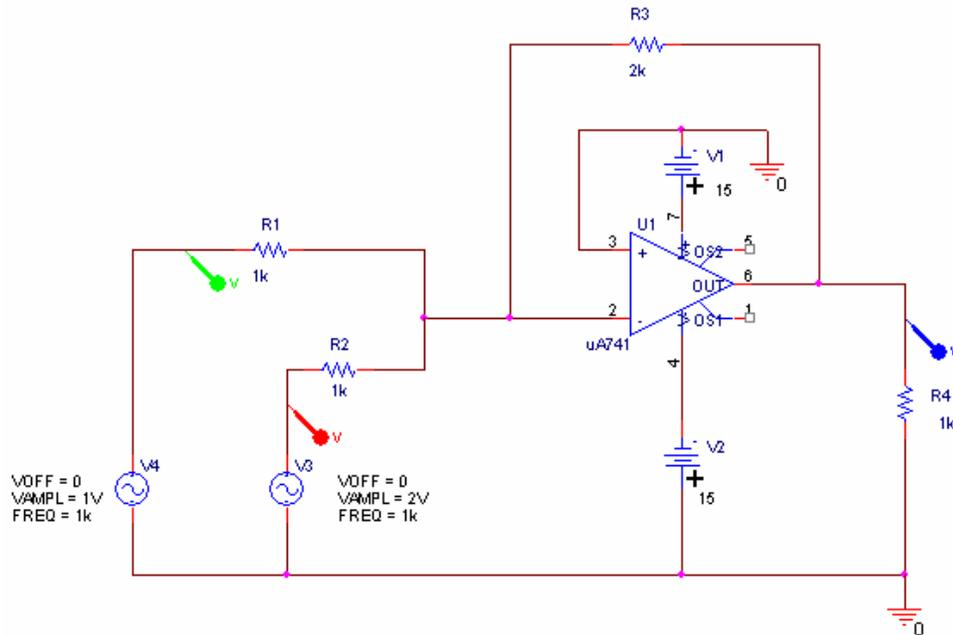

Figure D-3.
- Set up the circuit shown in Figure D-3 in PSpice.